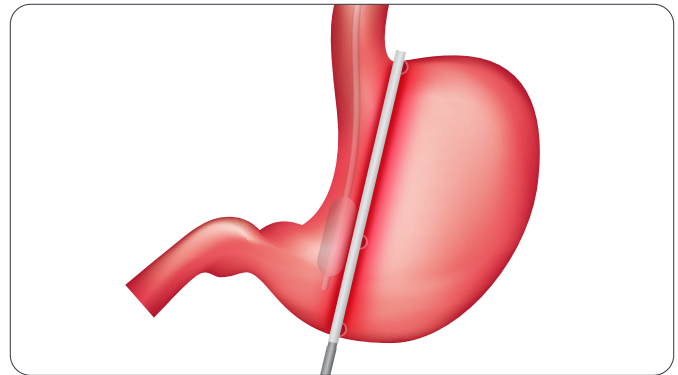

Figure 1
Step 1 — Remove the clamp from packaging and close the jaws by pulling on the black trigger. The jaws of the clamp are fully closed after five (5) clicks are heard.
Step 4 — Place the clamp jaws in the desired location ensuring tissue is flat and evenly distributed between the jaws and that no folds of tissue are created prior to closing the device (Figure 1). If tissue is folded, reposition the tissue.
Step 5 — Prior to closure, ensure no tissue is inadvertently captured between the retracting bands at the proximal end of the device. Close the clamp jaws by pulling the black trigger. The device is fully closed after five (5) clicks are heard. The clamp may be repositioned by opening the jaws, repositioning and reclosing in the desired location. The clamp may be opened and closed as necessary during the procedure. The clamp performance has been tested for six (6) cycles of opening/closing.